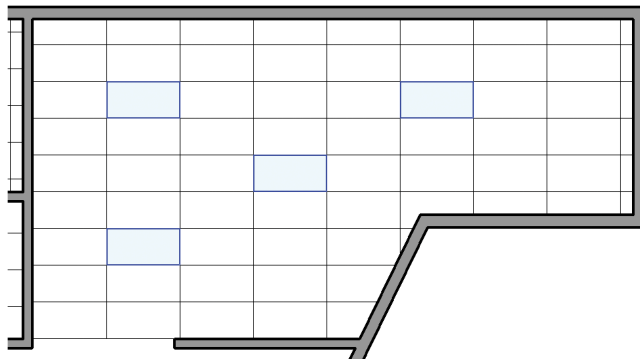

FIGURE 3.37 Placing lights
6. Use the Copy tool on the Modify panel to copy the first light based on the intersection of the ceiling grid. All the lights are shown in Figure 3.37.